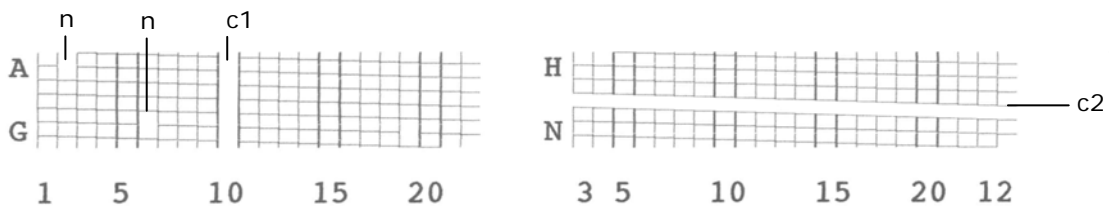
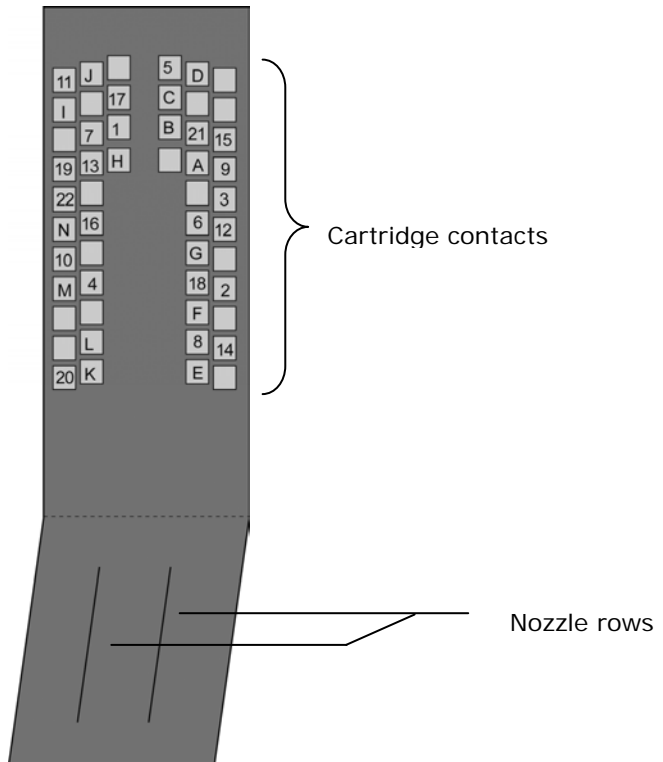

Figure 27: Pattern A with defects
Figure 28: Cartridge contacts
- Figure 27 shows an sample print with several defects. How to clean clogged nozzles, the cartridge and pen board is described in chapter 8.1.1, on page 99 and in chapter 8.1.2, on page 101. If a defect is still visible after cleaning these parts, replace the cartridge. Figure 28 on page 80 shows a reference diagram of the cartridge contacts and their descriptions.